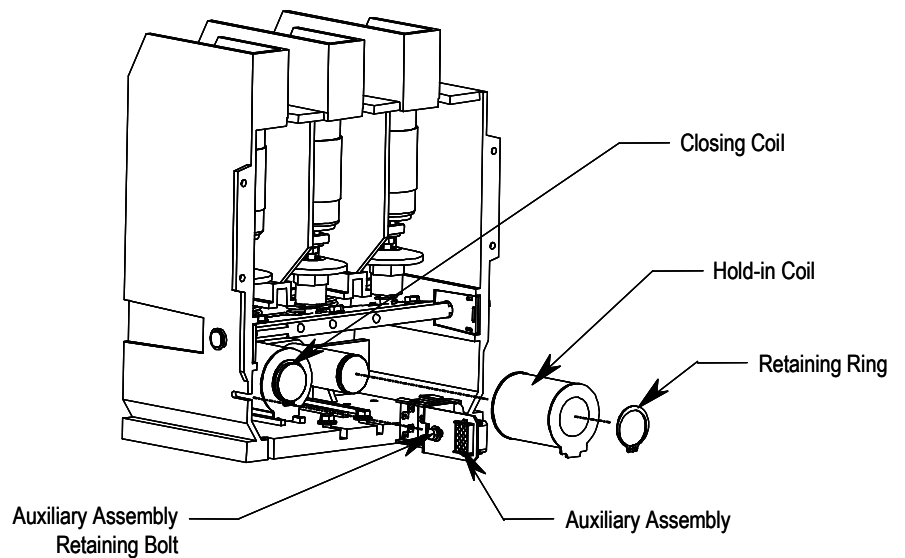

Figure 4.11 – Coil Removal
2. Remove the retaining ring from the core of the coil you wish to replace as shown in Figure 4.11.
3. Loosen the auxiliary assembly retaining bolt and slide the assembly and the coil forward and out of the contactor as shown in Figure 4.11.